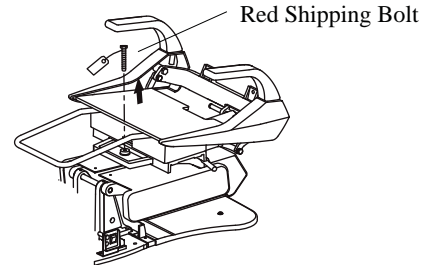

Fig 4-1-4
- 4) Place the chair on a horizontal floor. Remove the red tagged shipping bolt from the seat structure using a 13mm socket (See Fig 4-1-4)